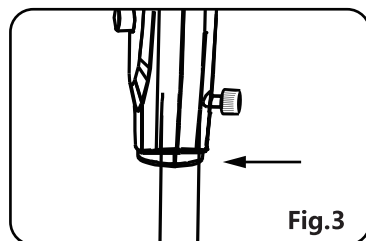

Fig.3
4. To attach the head unit to the internal pole, loosen the thumb screw at the bottom of the head unit. Place the head unit onto the internal pole and tighten the thumb screw. (Fig. 3)